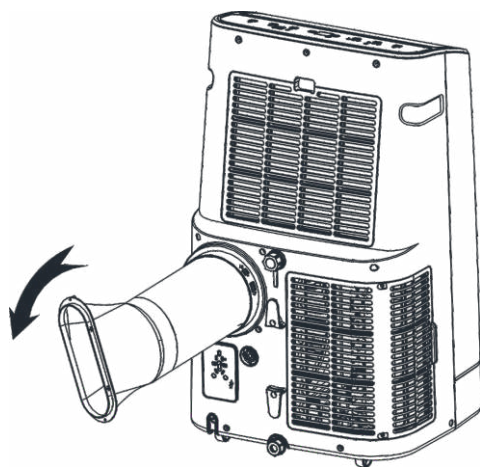

Figure 1
1.1 Install the heat pipe assembly (as shown in Fig.1)
- 2) insert the heat pipe assembly (the end of the exhaust joint) into the back panel vent slot (push to the left) and complete the assembly (as shown in figure 1).